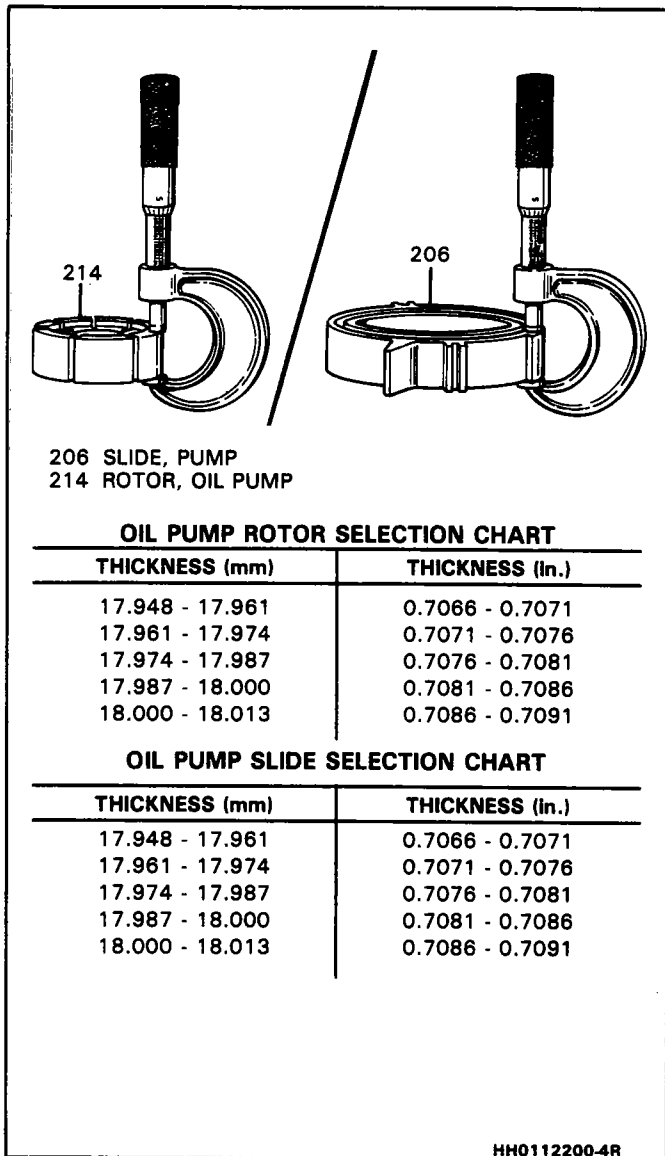

Figure 102 Measuring Oil Pump Rotor
- torque screws (235) to 12 N·m (9 lbs.-ft.)
**Measure (Figure 102)**